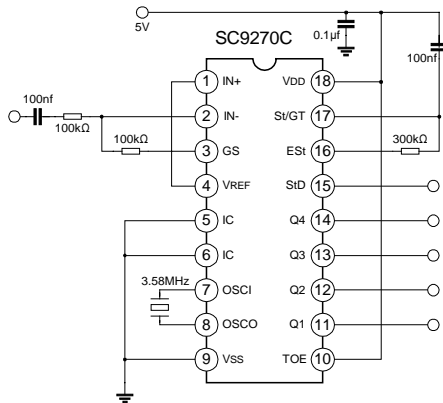

Figure 2. Single ended input cofiguration
AC CHARACTERISTICS (All voltage referenced to Vss otherwise noted; VDD=5.0V, VSS=0V, TA=25°C, fCLK=3.579545 MHz, using test circuit of figure 2 & 3. Typical figures are at 25°C and are for design aid only: not guaranteed and not subject to production testing)
Provision is made for connection of a feedback resistor to the op-amp output (GS) for adjustment of gain. In a single-ended configuration, the input pins are connected as shown in Fig.2 with the op-amp connected for unity gain and VREF biasing the input at 1/2VDD.